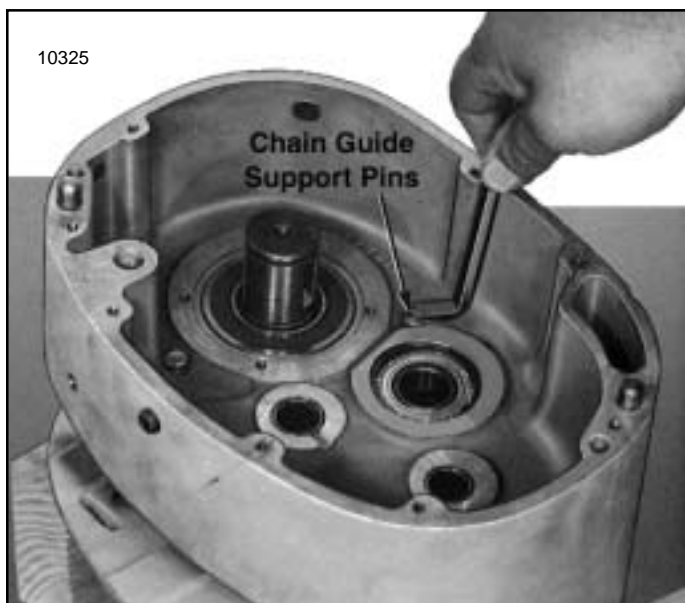

Figure 7-13. Removing Chain Guide Support Pins using Pry Bar
(3) Using suitable pry bar (fig. 7-13) partially raise two chain guide support pins from their bores in frame. Pull them the rest of the way out using pliers with jaws protected to avoid damaging pins. Remove and discard two "O" ring gaskets from grooves on each support pin.